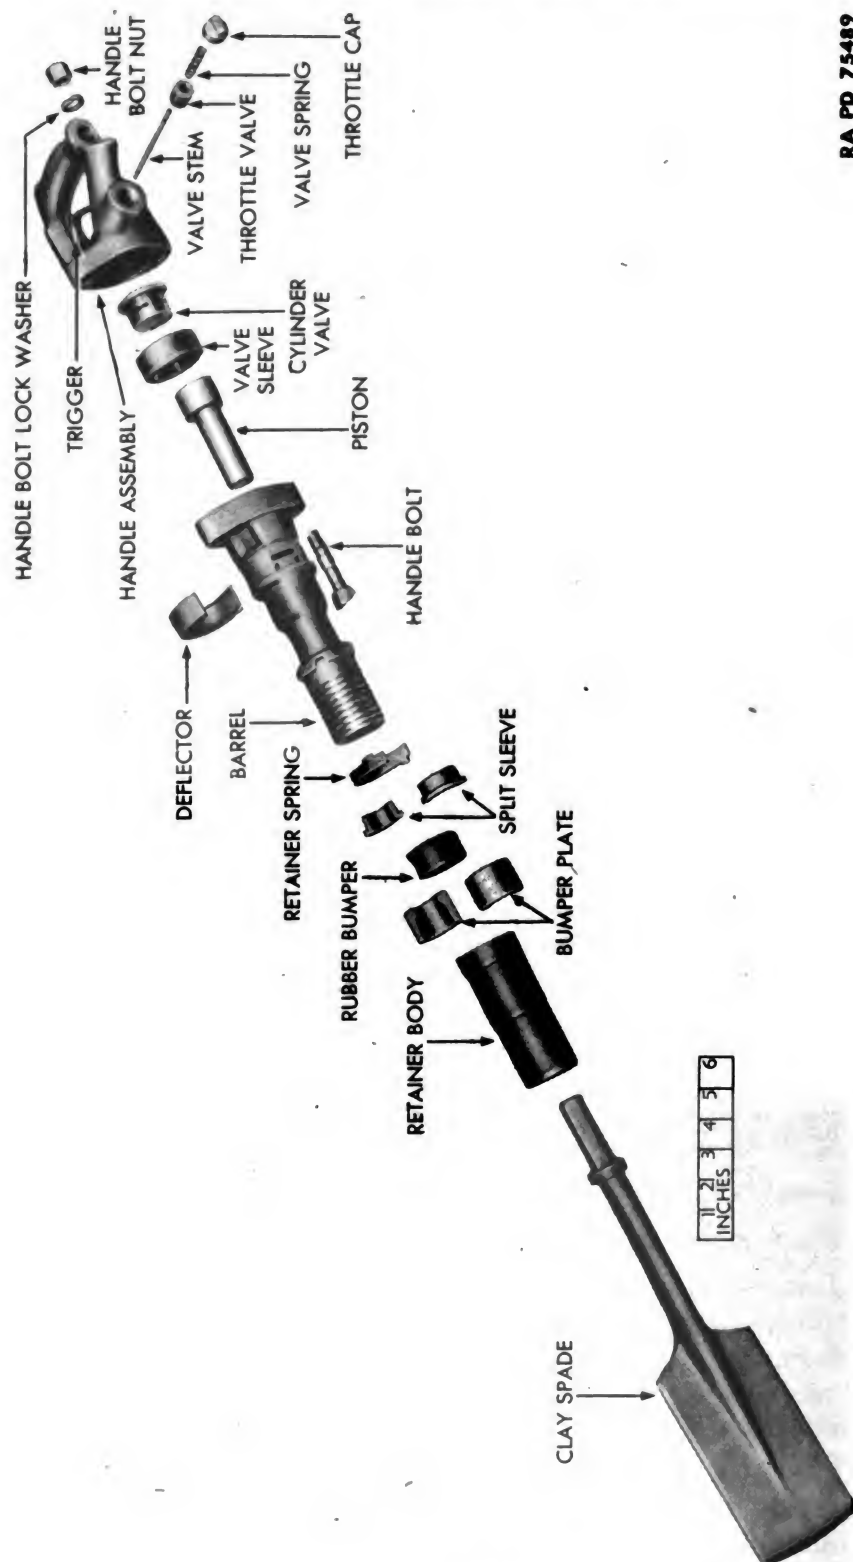

Figure 65 — Pneumatic Clay Digger — Exploded View
b. Clay digger can be equipped with a clay spade, flat pick, or moil point. If it is desired to change points, lift upon retainer spring with screwdriver and unscrew retainer body by hand. Pull both halves of split sleeve, rubber bumper, and both halves of bumper plate from large end of retainer body (fig. 65). Use screwdriver, if necessary, to loosen parts. Pull bit from small end of retainer body. Insert bit to be used through small end of retainer body. Place both halves of bumper plate, rubber bumper, and both halves of split sleeve in position around shank of bit inside retainer body (fig. 65). Screw retainer body onto barrel by hand and snap retainer spring into position.
(c) Throttle valve fouled with dirt.	(c) Remove throttle cap, valve spring, throttle valve, and valve stem from handle (fig. 65). Remove handle from barrel (par. 42). Clean all parts with SOLVENT, dry-cleaning, and air blast. Be sure air passages are open. Lubricate parts with OIL, engine, SAE 10, and assemble (par. 44).
a. Disassembly (fig. 65).
(1) Lift up retainer spring with screwdriver and unscrew retainer body by hand. Pull both halves of split sleeve, rubber bumper and both halves of bumper plate from large end of retainer body. Use a screwdriver, if necessary, to loosen parts. Slide clay spade, flat pick, or moil point from small end of retainer body.
(2) Screw throttle cap from its boss in handle assembly. Pick valve spring, throttle valve, and valve stem from throttle cap opening in handle assembly.
(3) Remove both handle bolt nuts, lock washers, and bolts. Pick handle assembly from barrel, pick cylinder valve assembly from top of barrel and press valve from valve sleeve. Empty piston from top of barrel.
(4) Snap deflector from over exhaust holes in barrel.
b. Assembly (fig. 65).
(1) Snap deflector into position on barrel over exhaust holes.
(2) Insert piston, small end first, into top of barrel. Press small end of cylinder valve into top of valve sleeve and place the assembly in position in top of barrel. Place handle assembly in position on top of barrel and install both handle bolts, lock washers, and nuts. Draw handle bolt nuts up evenly and tightly.
(3) Insert valve stem, throttle valve, and valve spring into throttle cap opening in handle assembly. Install throttle cap in its opening in handle assembly.